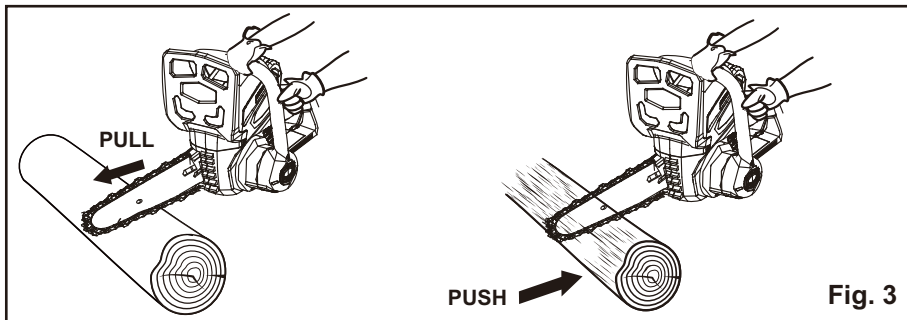

Fig. 3
- Push and Pull - This reaction force is always opposite to the direction the chain is moving where wood contact is made. Thus, the operator must be ready to control the PULL when cutting on the bottom edge of the bar, and PUSH when cutting along the top edge. (See Figure 3)